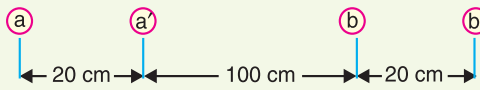

Fig. 9.18
**Example 9.10.** In a single phase line (See. Fig. 9.18), conductors a and a' in parallel form one circuit while conductors b and b' in parallel form the return path. Calculate the total inductance of the line per km assuming that current is equally shared by the two parallel conductors. Conductor diameter in 2.0 cm.